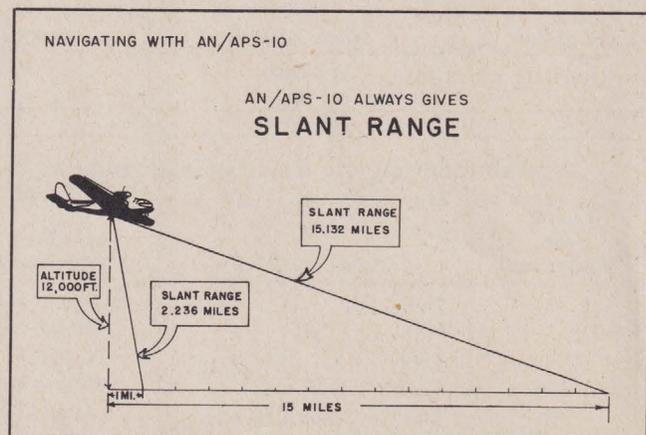
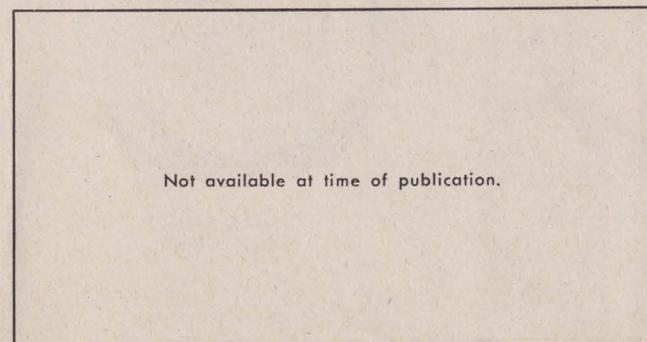

Figure 5-1. Slant Range
Figure 5-2. Conversion of Slant Range to Ground Range
f. SLANT RANGE.—The nature of radar is such that ranges are always the distance from the plane to the target, not ground range from a point under the plane to the target. (See figure 5-1.) Whenever the range in miles is less than the altitude in thousands of feet it is important to convert slant range to ground range for accuracy. Refer to the computer chart, figure 5-2.